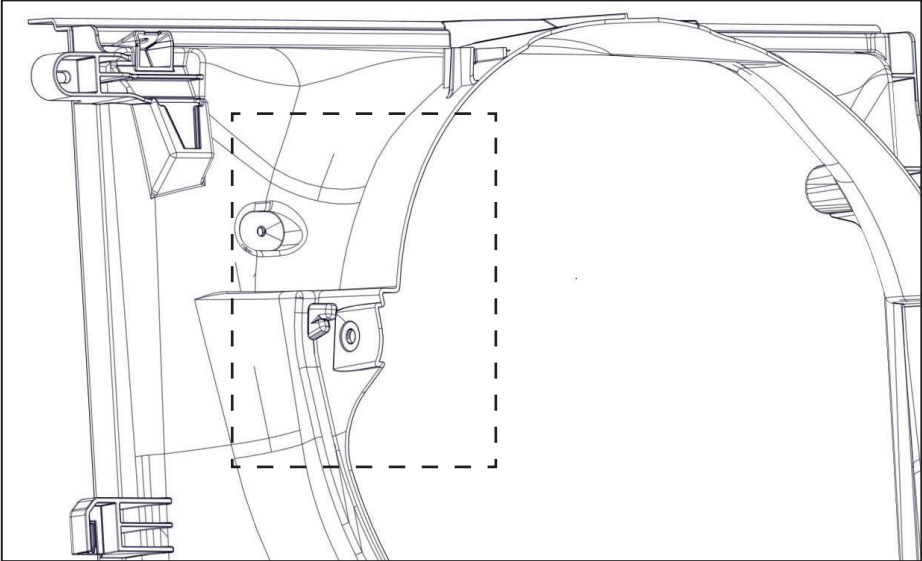
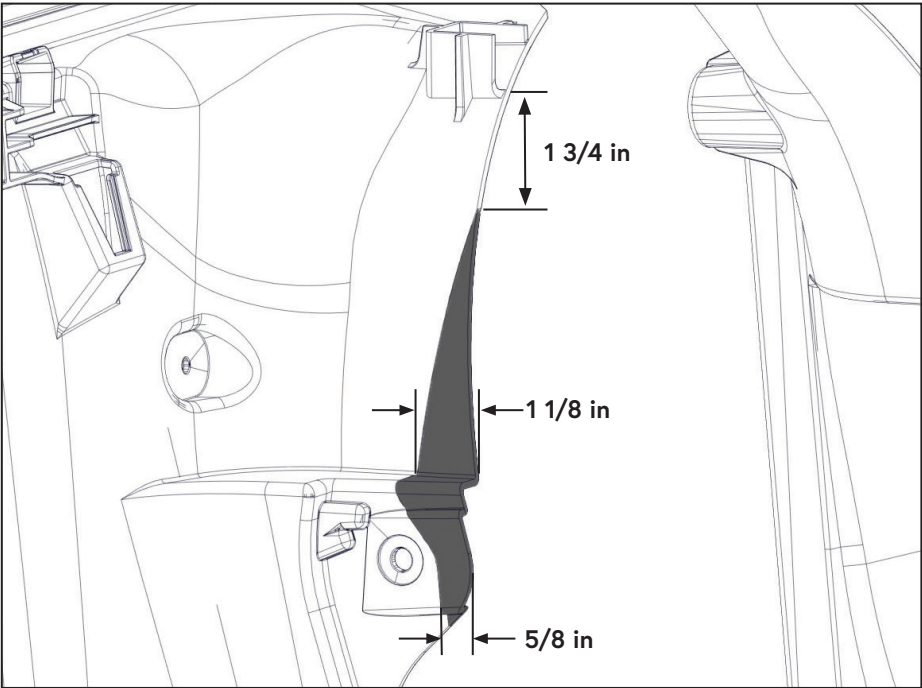
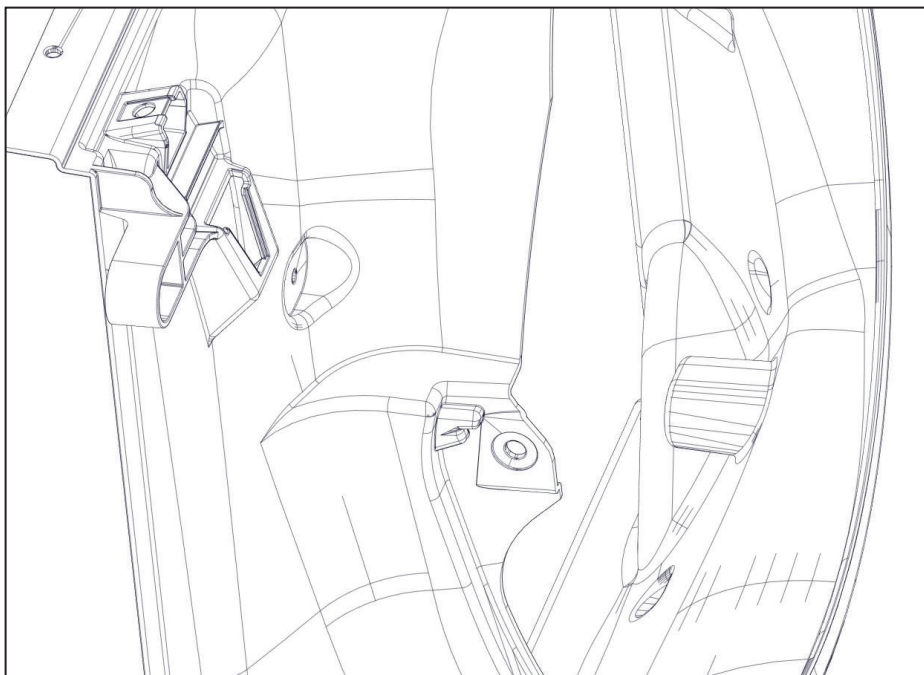

Figure 24 — Fan shroud modification
Figure 25 — Fan shroud modification
Figure 26 — Fan shroud modification
- ☐ Remove the shaded portion of the shroud to provide clearance for the VMAC tensioner (Figure 24, Figure 25, Figure 26).